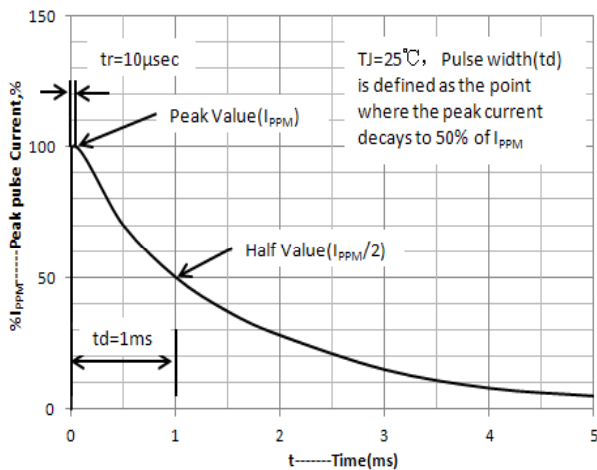
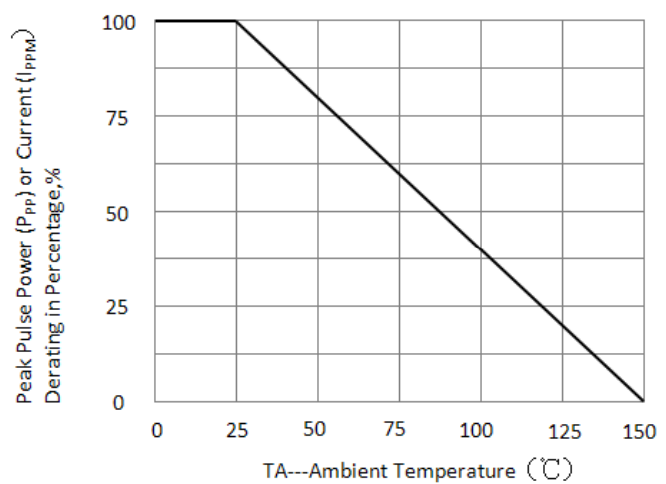

Figure 3. Pulse Waveform
Figure 4. Peak Pulse Power Derating Curve
1) Non-repetitive current,per fig.3 and derated above TA=25°C per fig.4.